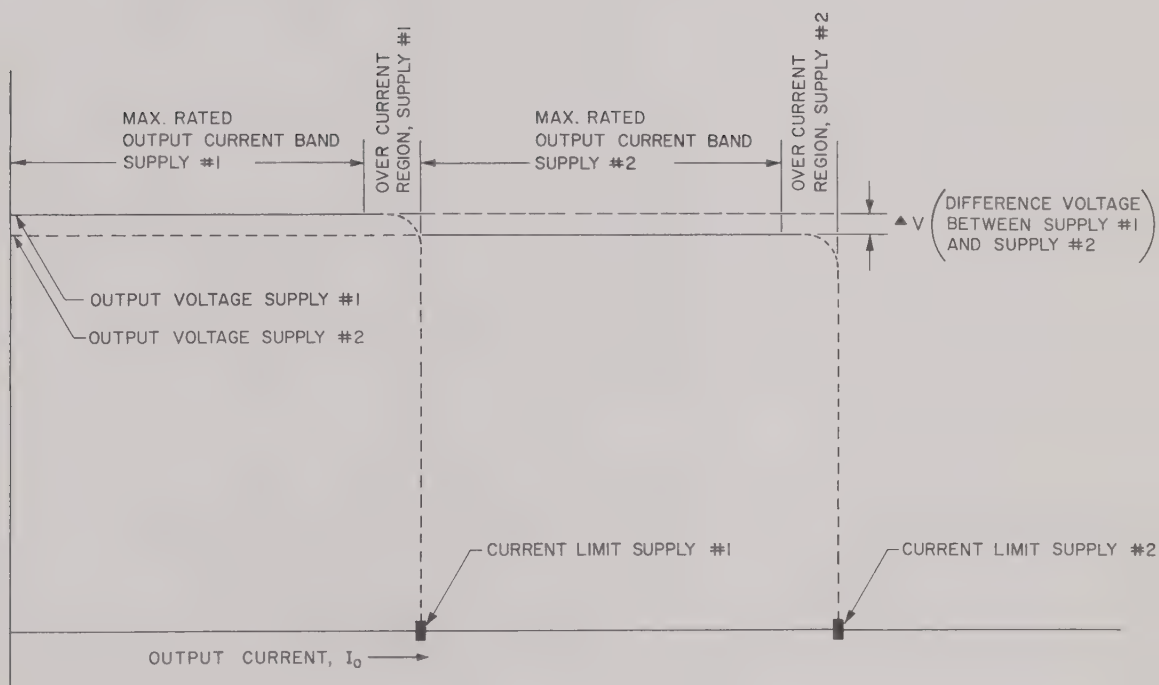

FIG. 3-12 PARALLEL OPERATION, PAX POWER SUPPLIES
3-40 Two identical PAX power supplies may be operated in parallel for increased load-current output. Each supply is set approximately to the desired output voltage with its respective Current Limiting Adjustment set to the maximum clockwise position. After paralleling the two power supplies, one of them (supply #1) will inherently be at a slightly higher output voltage than the other (supply #2). Consequently, supply #1 will deliver all the load current up to the setting of its Current Limiting Adjustment. As the load is increased beyond this limit of supply #1, supply #2 takes over and delivers the additional current. The Current Limiting Adjustment of supply #1 can now be decreased, so that approximately equal current sharing is obtained. Fig. 3-12 shows in form of a diagram, how the two supplies operate in parallel, with their respective Current Limit Adjustments in maximum clockwise position. It will be obvious from the diagram, that the areas of load regulation are within the output current bands of the individual supplies only. Therefore, load regulation cannot be measured from zero to twice the load current for example, but only within the individual load current bands. Error-sensing as described in Par. 3-18, (from either supply) may be used if precise regulation at the load is required.
3-41 PROCEDURE (Refer to Fig. 3-12)
- a) Connect units as shown in Fig. 3-12. Open SW-1 and SW-2 and connect to line.